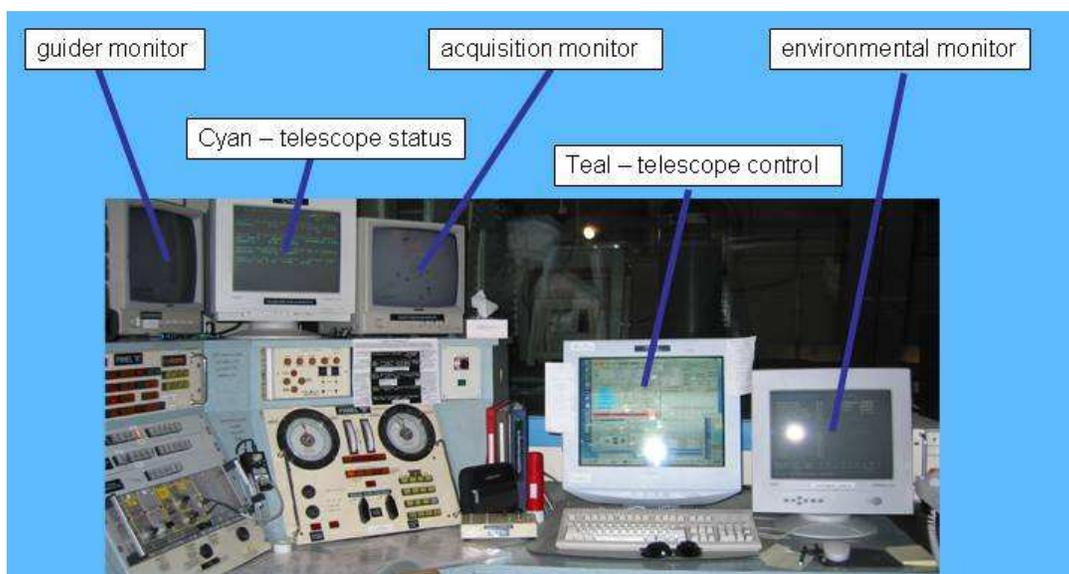

Figure 1—Operator's Station
3. Flip up the left-most toggle switch; this is the power switch. Prior to this step you may also flip up the second toggle switch, which is attached to a neutral density (ND) filter, in order to provide some more protection to the camera.
6. Now turn up the gain until stars begin to appear on the acquisition monitor (to the right of the TCS output display on cyan, cf. Figure 1). If no stars appear, it may be that there are no stars available for the current telescope pointing.
To shutdown the guider, click on the bottom icon once, then wait for the cursor to revert back to a normal cursor. This may take 10s of seconds; do not attempt to restart the Linux guider (the top icon) until the cursor is normal again. The top icon should launch the *TV Guider* GUI, and initialize the guider video display unit, to the left of the TCS output on cyan (cf. Figure 1).